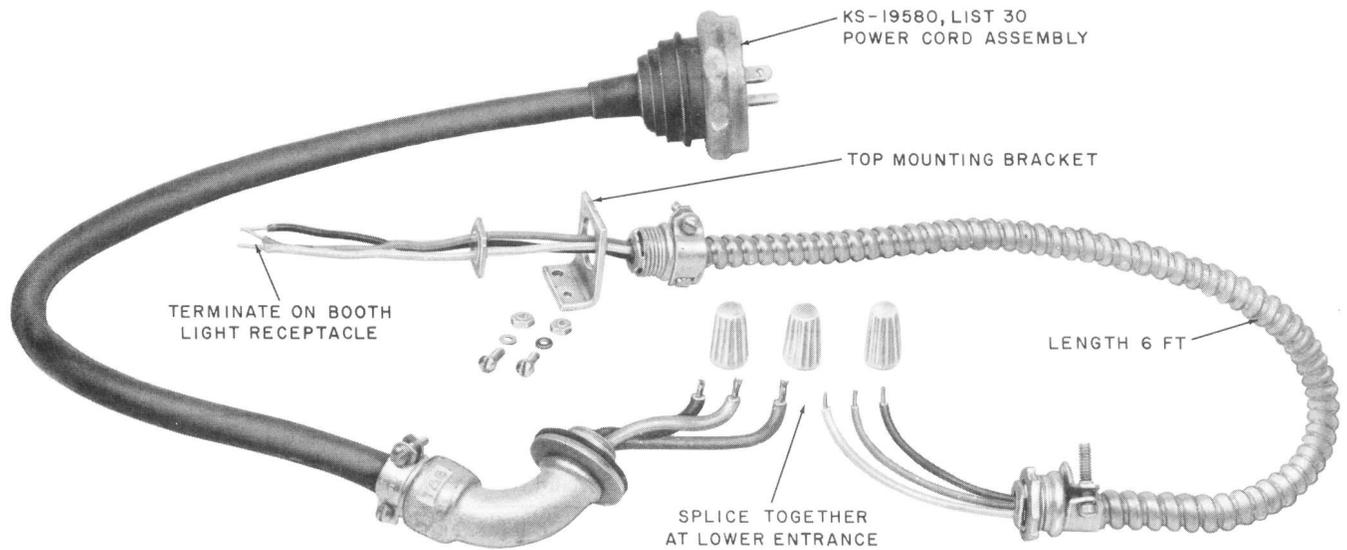

Fig. 5—KS-19580, List 31 Power Cord Assembly
- (b) **KS-19580, List 31 power cord group (Fig. 5):** Used for ground level entrance where a circuit breaker is not required.